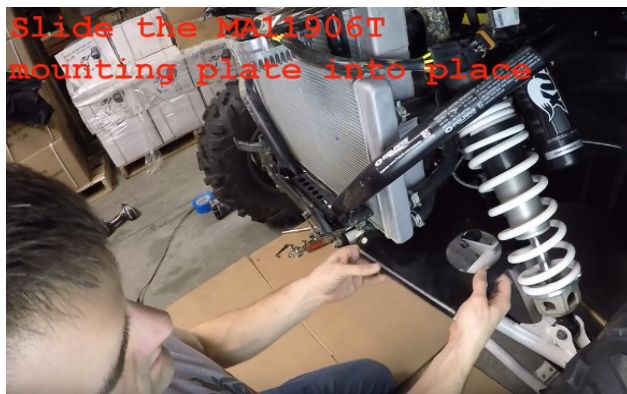

Figure 4
- 5) Insert the MA11906T-1 Mount Plate (part #1) on top of the front differential from the driver side of the vehicle. Position the mount plate over the differential and ensure that the brake line is not pinched by the plate, as shown in Figure 4 & 5. Do not use any bolts to attach it at this time.